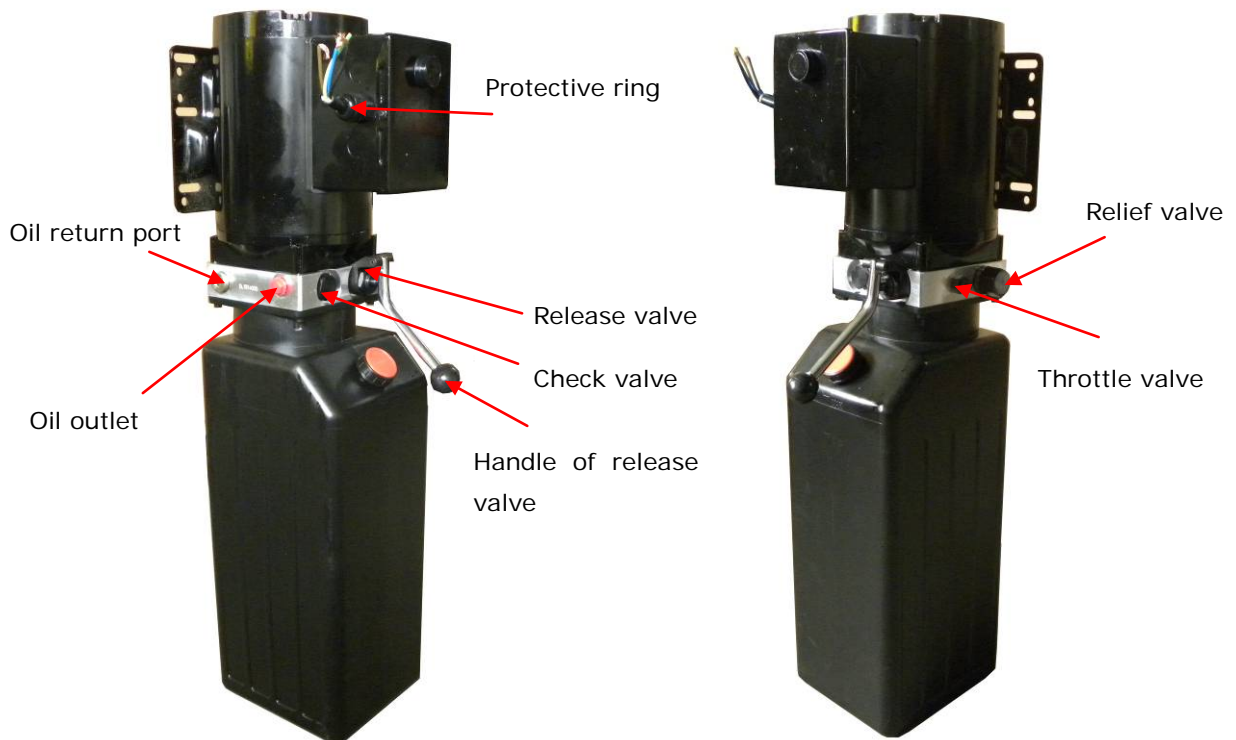

Fig. 39
C. PEAK manual power unit, 380V/50HZ, 3 phase (See Fig. 39)